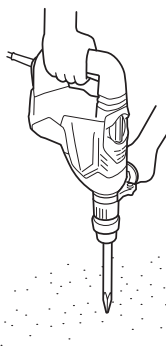

Fig. 6
2. How to chisel or demolish (Fig. 6)